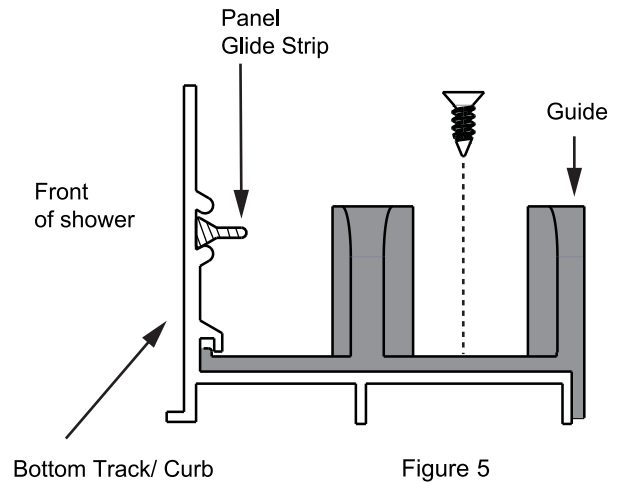

Figure 5
- B. With a Tape Measure, measure from Wall Jamb (#3) to Wall Jamb (#3) and, with a Pencil, mark the center point on the inside edge of the Bottom Track/Curb (#2) or lightly on the shower sill or tile where it will be visible. Remember, you will want to be able to see the Pencil mark. Position so that you will know where to center the Guide (#4). (See Figure 5)